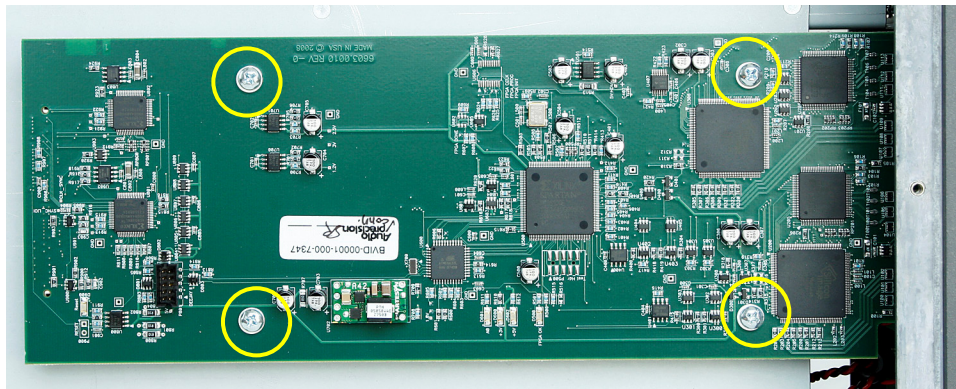

Figure 2 BVID circuit board screws
3. Remove the four screws that secure the HDMI circuit board (BVID), as shown in Figure 2.